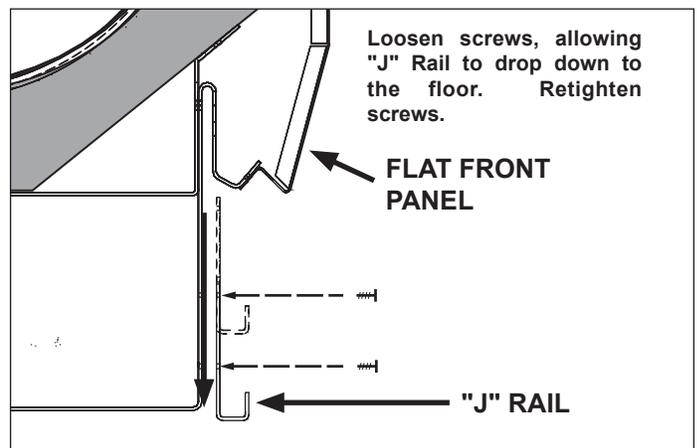

Fig. 6 "J" rail installation
- 9. The "J" rail (Fig. 6) is shipped attached to the case as shown. Loosen screws holding "J" rail to allow it to slide down and fit flush with the floor. Re-tighten screws.